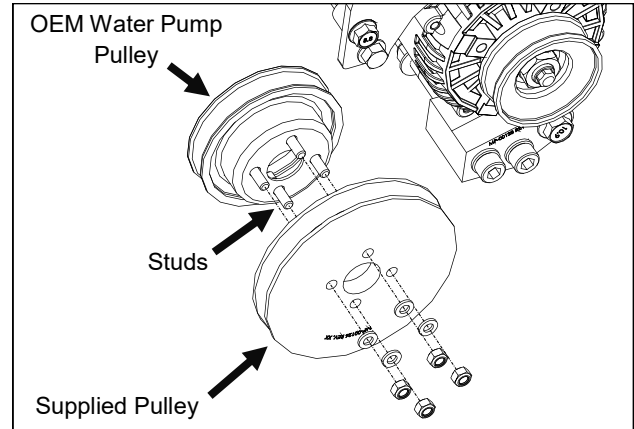

Fig. 2.6 Water Pump Pulley
- 2.6 Per fig. 2.6, thread the supplied studs into water pump. Install OEM and supplied water pump pulleys and **torque lock nuts to 8 ft lbs.**